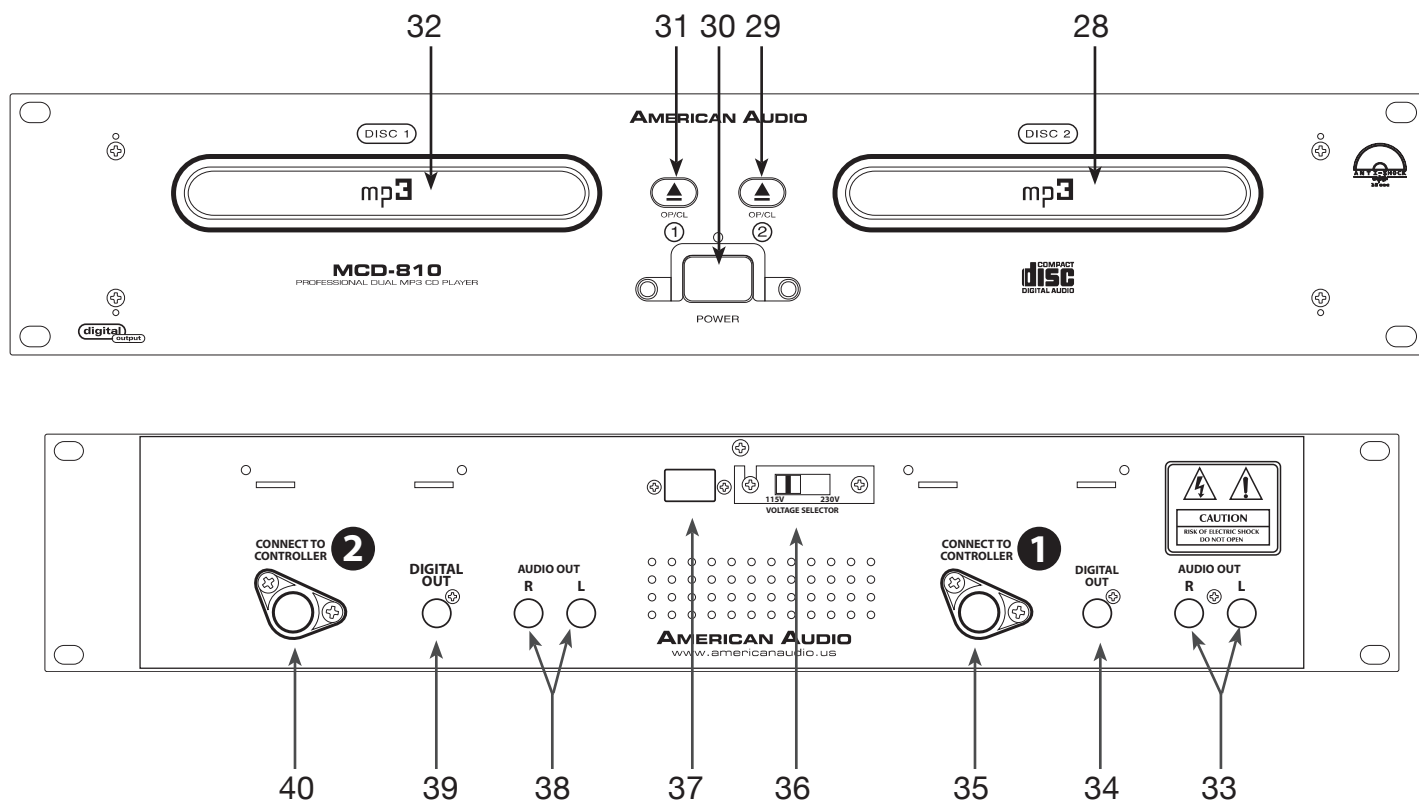

Figure 4
B. TRANSPORT UNIT (FIGURE 4)
28. DRIVE 2 TRANSPORT TRAY - This tray is used to load and unload a compact disc in to the drive 2 mechanism. The tray is opened and closed by pressing the DRIVE 2 OPEN/CLOSE BUTTON (29). Never attempt to force the transport tray to open or close when the power is turned off.